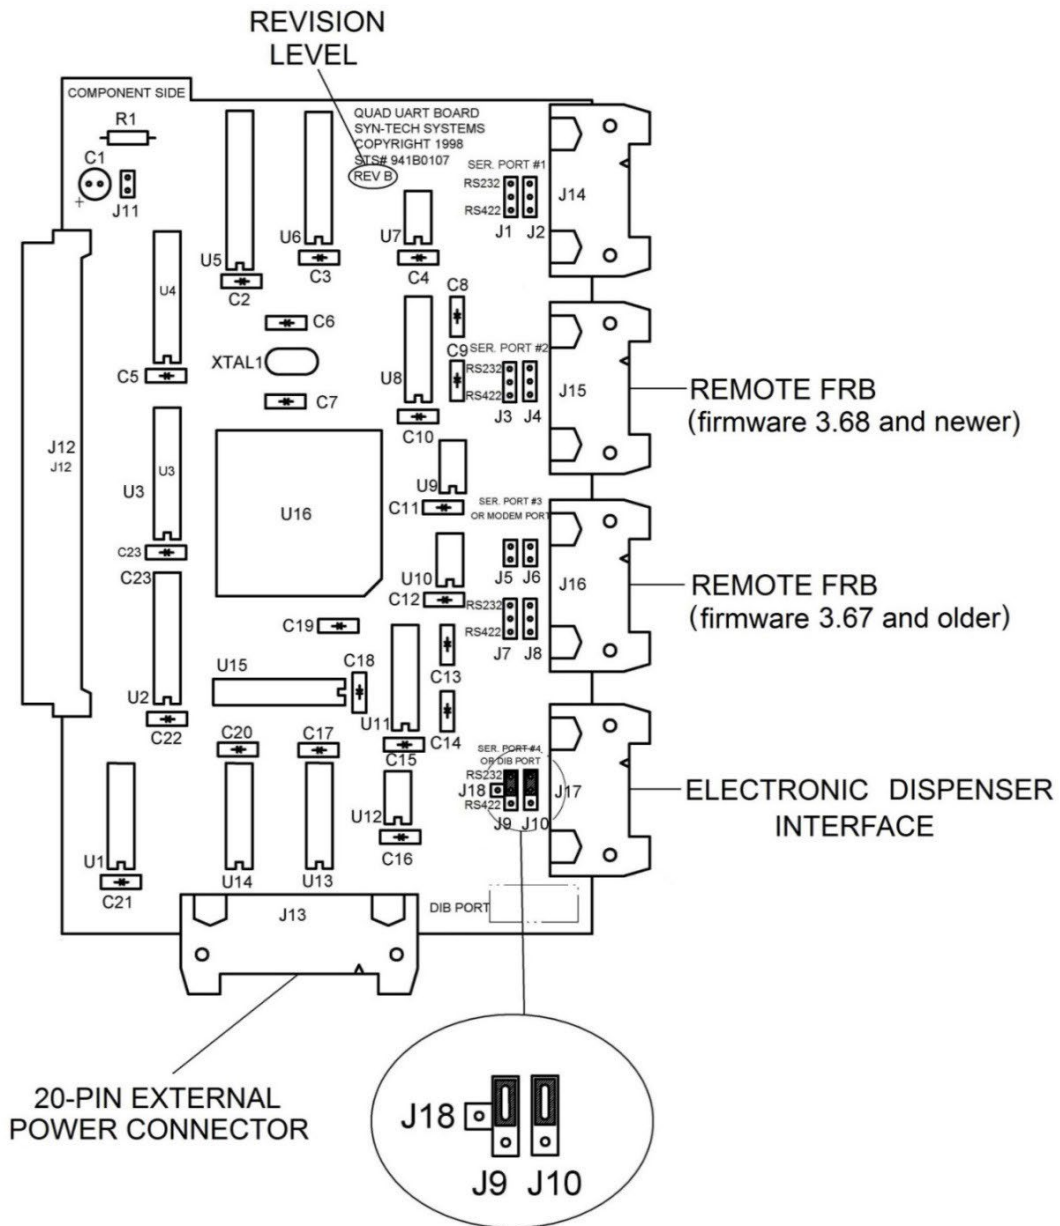

Figure 1. 941B0107 (Rev B) Quad UART Board
- The original 941B0107, Rev B (Figure 1), and
### **941B0107, Rev B (Figure 1)**